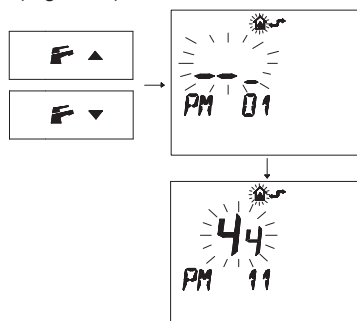

Fig. 7.30
- Press buttons **F**▼ or **F**▲ to display the “PM11” program of the pump post-circulation (Fig. 7.30).